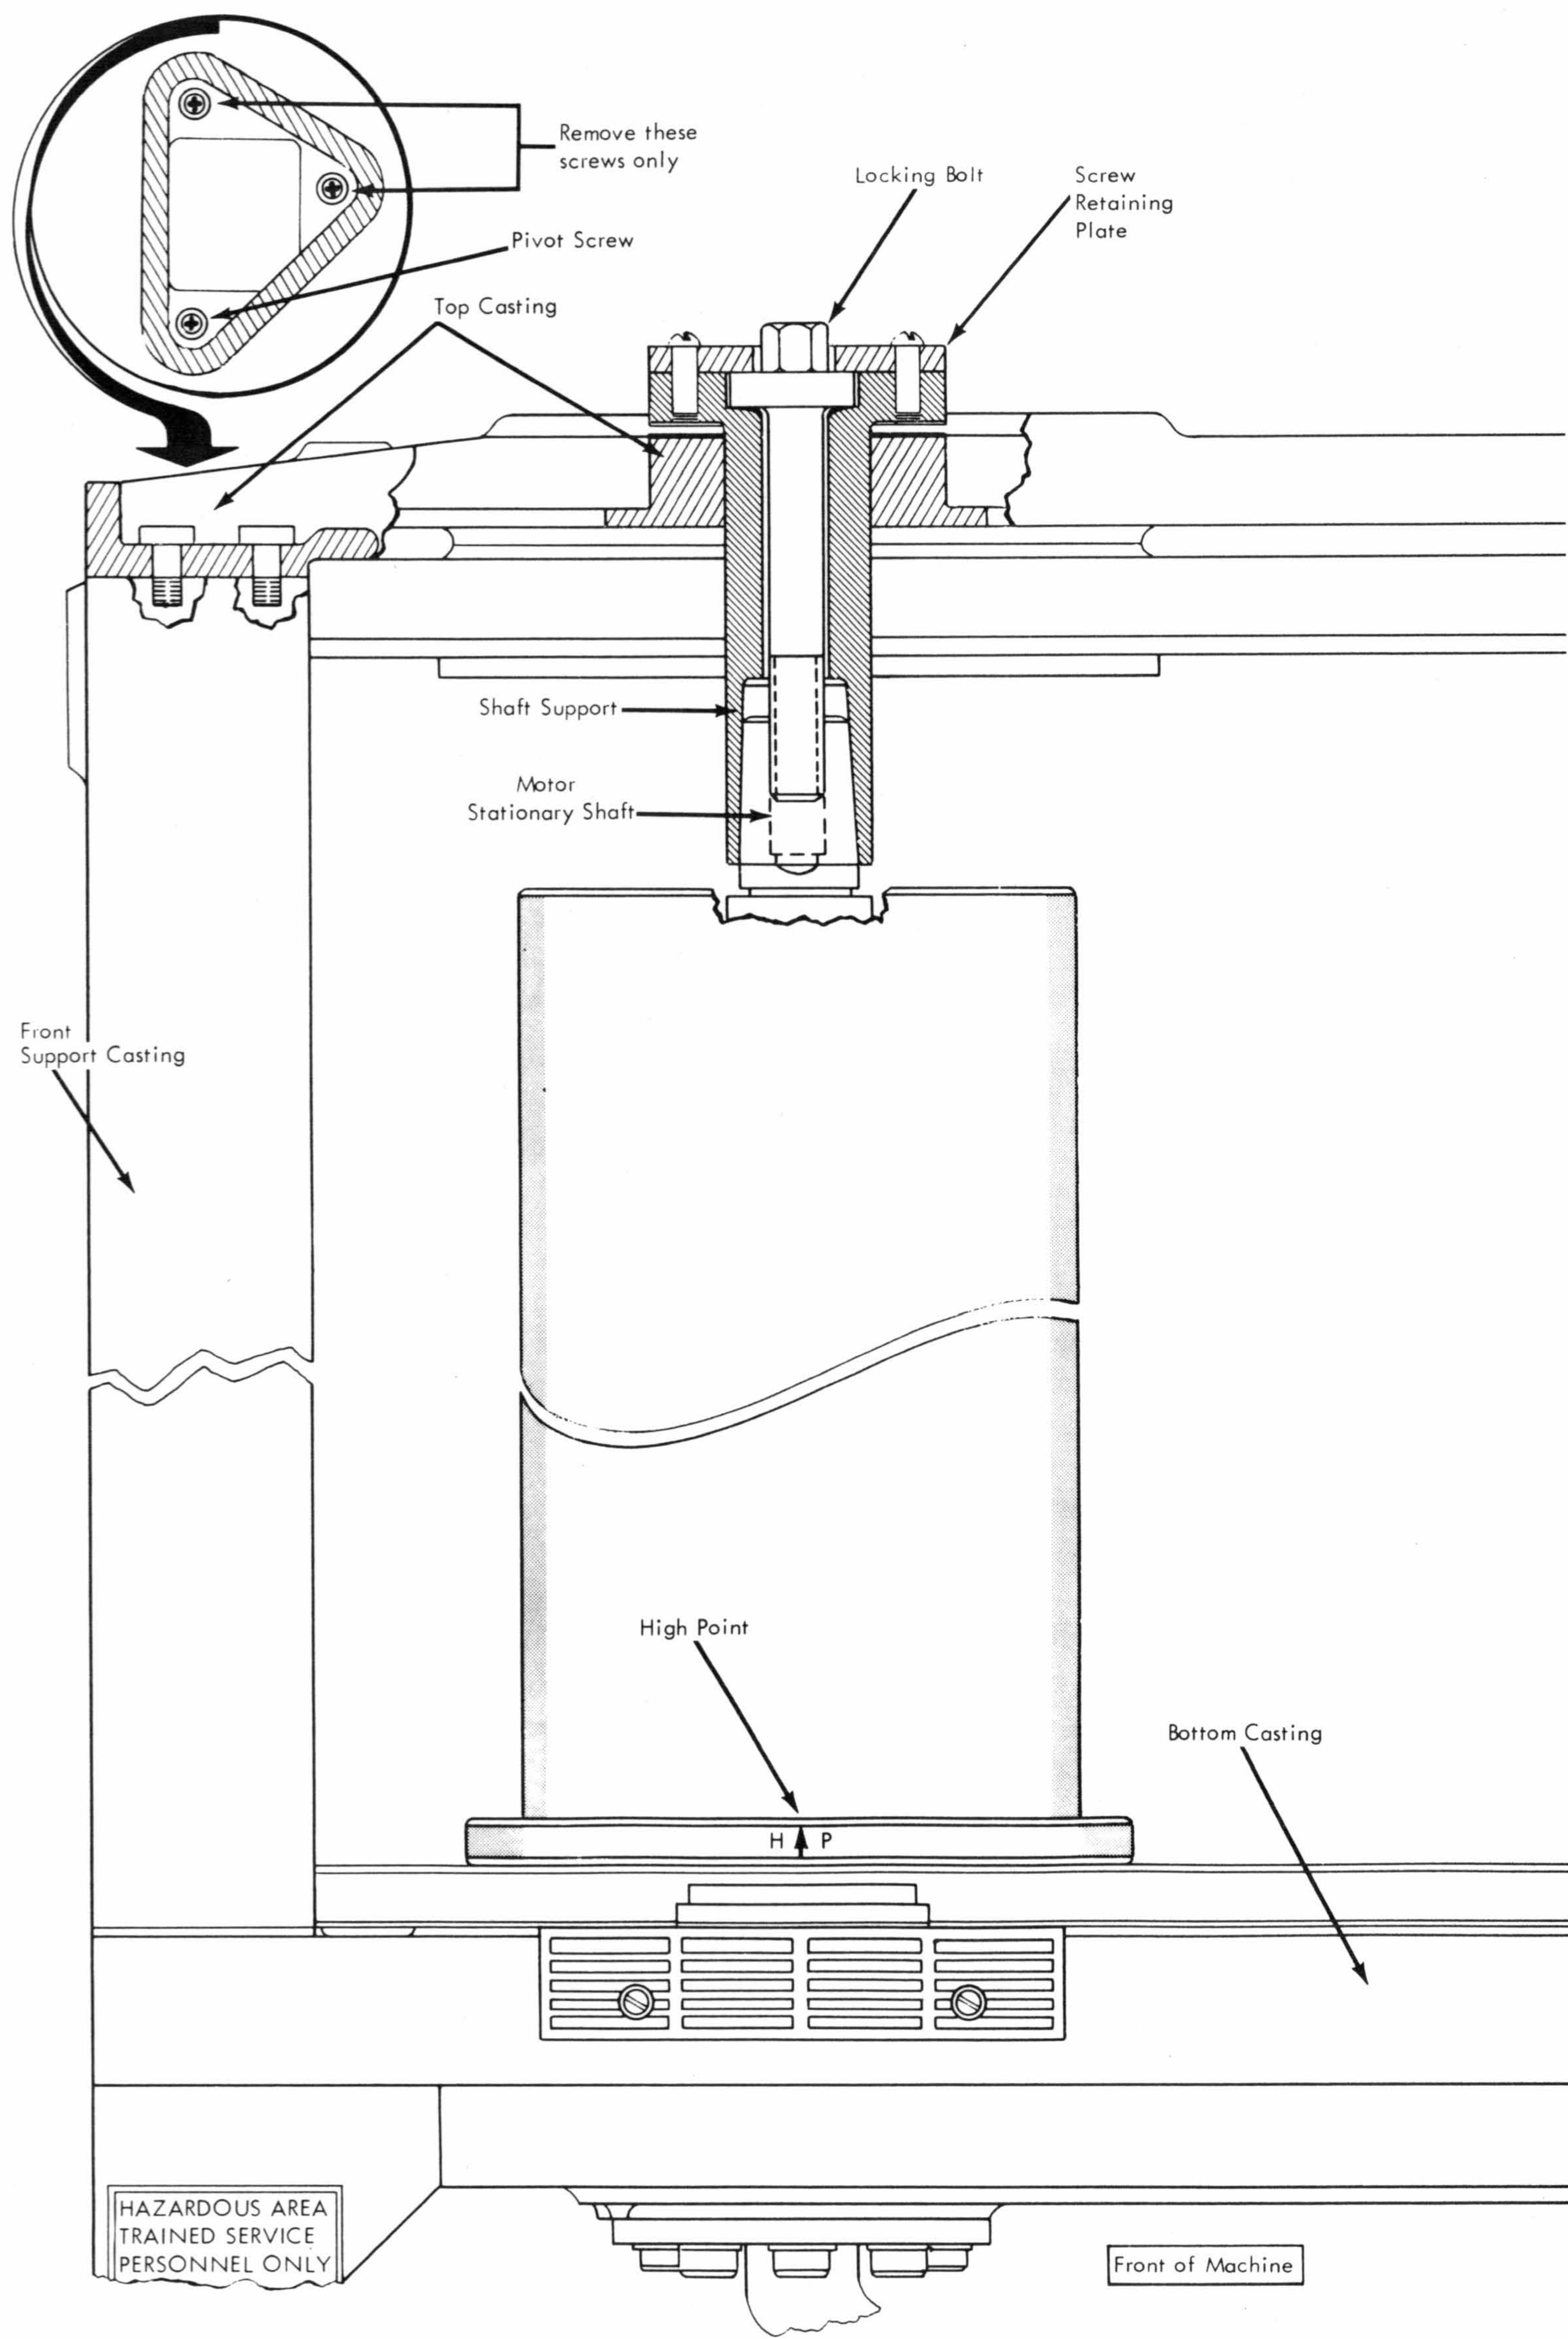

Figure 2-7. Shaft Motor
8. Rotate shaft motor until high point arrow (H ↑ P) is at front of machine as shown in Figure 2-7.
11. Remove locking bolt (Figure 2-7). During this removal process, the locking bolt will exert a lifting force on the bottom of the screw retaining plate. This lifting force will raise the screw retaining plate and the shaft support, thereby separating the shaft support from the motor stationary shaft. Do not remove locking bolt or shaft support from top casting, but raise it so that its underside is flush with bottom of top casting. Block in position to prevent its falling and damaging disk surfaces. (Use wooden block from Disk Alignment Kit.)
12. Remove the two rearmost screws from the top and bottom of the front support casting and rotate casting 90° clockwise, away from the disk array (Figure 2-7).